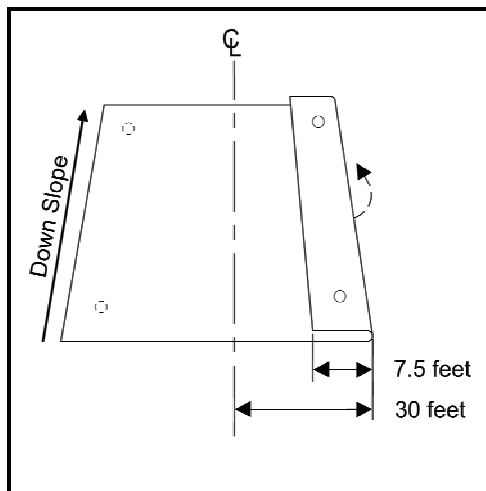

Figure 4. Folding the edge to center.
2. Fold the folded edge to center (Figure 4).